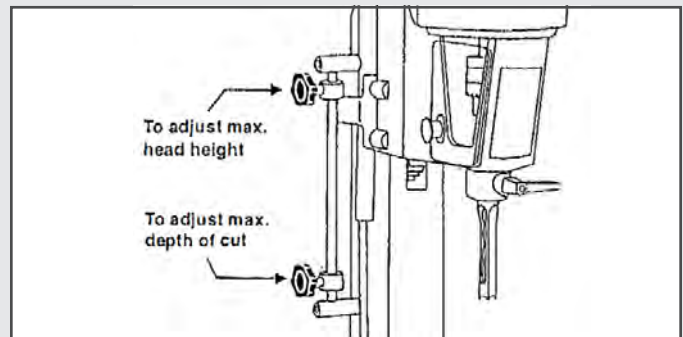

FIGURE 4: Adjusting DEPTH STOP
2. Set **DEPTH STOP** to the required depth of cut. See Figure 4.